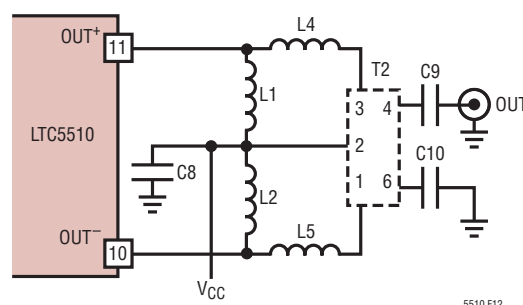
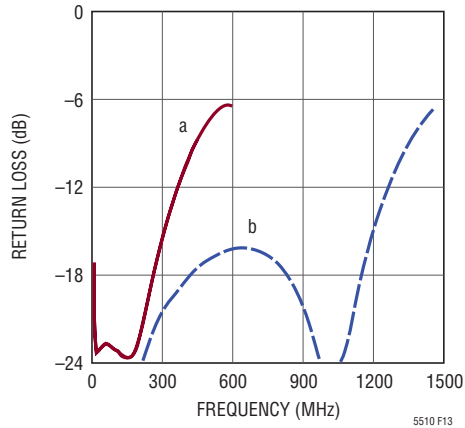

Figure 12. LF Board Output Schematic
Figure 13. Out Port Return Loss of LF Board (DC1984A) Tuned for 44MHz (a), and 456MHz (b)
For lower output frequencies, wire-wound transformers provide better performance. The low frequency (LF) evaluation board (DC1984A) in Figure 3(b) accommodates these applications. The output matching topology is shown in Figure 12. Components L1, L2, L4 and L5 are used to tune the impedance match, while T2 provides the desired impedance transformation. C9 and C10 are used for DC blocking in some applications. Table 6 lists component values used for characterization, and the measured return loss performance is plotted in Figure 13.